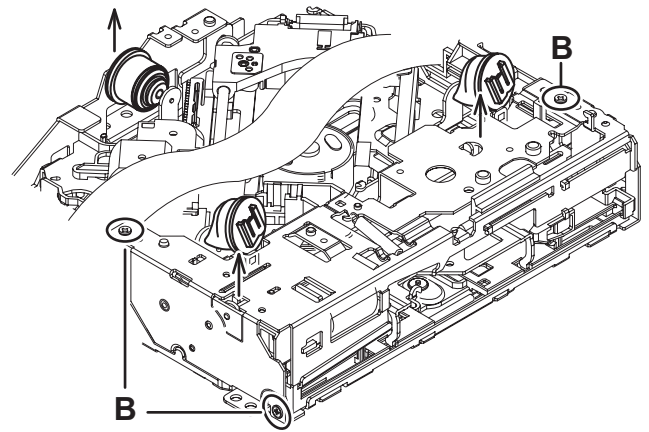

Fig.5
- (2) Remove the 3 screws **B** attaching the bottom frame assembly. (See Fig.5)
- (3) Remove the 3 dumpers from the bottom frame assembly. (See Fig.5)